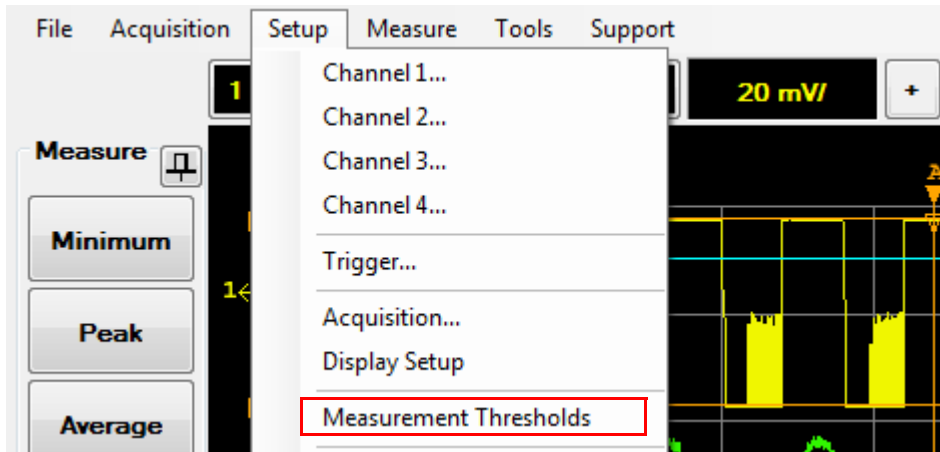

Figure 2-44 Measurement Thresholds selection in the Setup menu
- 1 Select **Setup > Measurement Thresholds** on the toolbar as shown in Figure 2-44.